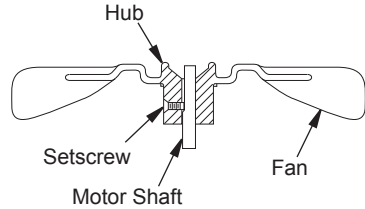

Figure 6 - Fan Cross Section
6. Replace fan on motor shaft. Make sure setscrew is touching back of flat surface on motor shaft (see Figure 6, page 7).